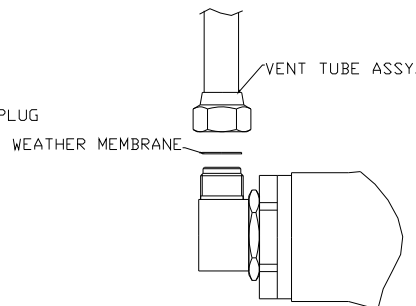

FIGURE 7
9. Install membrane and vent tube assembly. SEE FIGURE 7